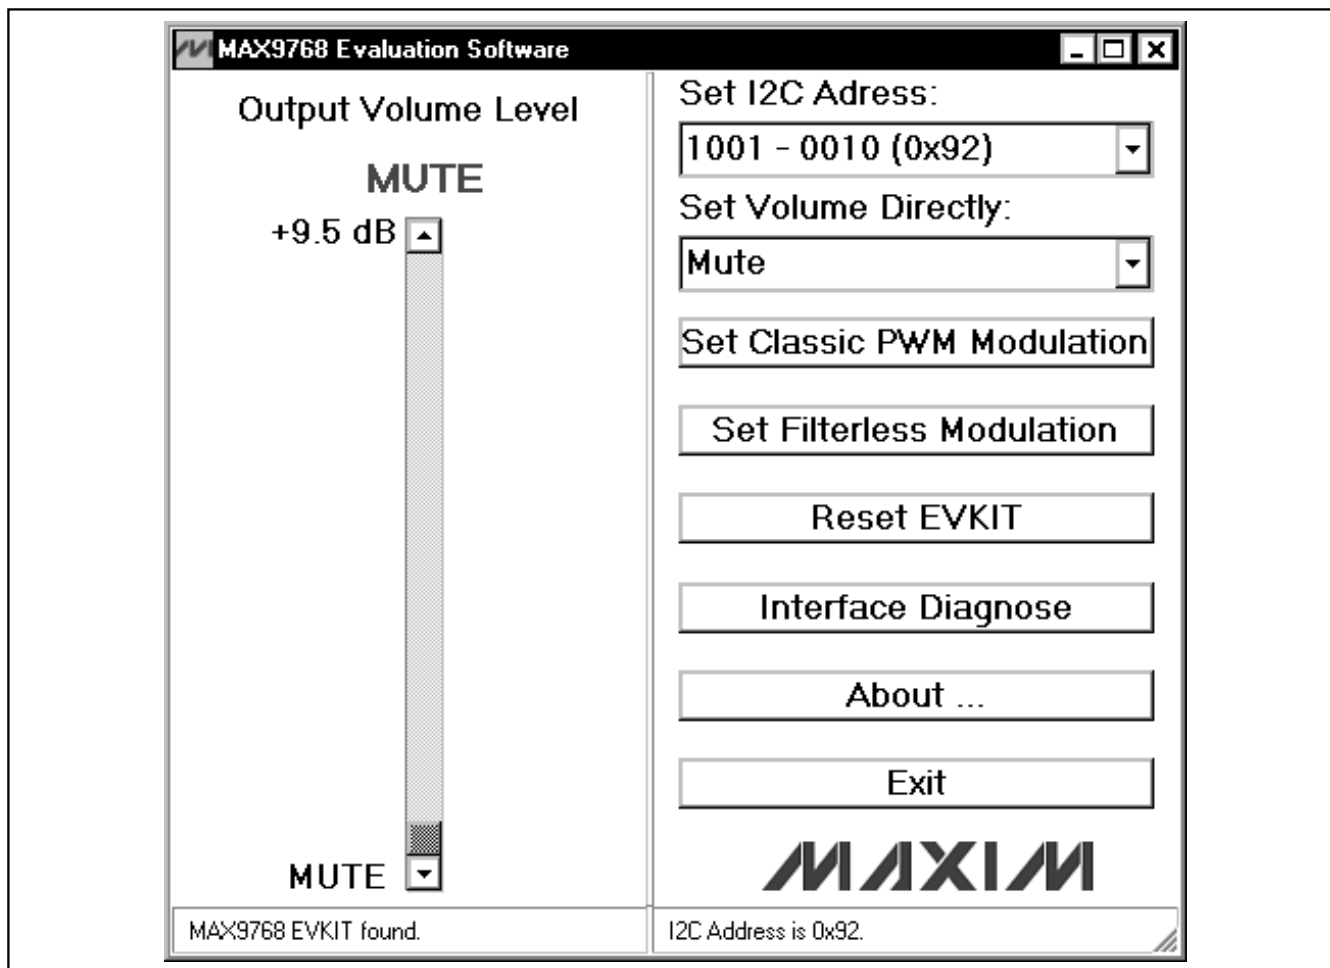

Figure 1. MAX9768 Evaluation Software Main Window
- 16) Start the MAX9768 EV kit software by opening its icon in the **Start** menu. The GUI main window appears, as shown in Figure 1.
To start the MAX9768 EV kit software, double-click the MAX9768 EV kit icon created during installation. The GUI main window appears, as shown in Figure 1. Wait approximately 2s while the MAX9768 EV kit software connects to the CMAXQUSB board and automatically detects the I2C address of the device.